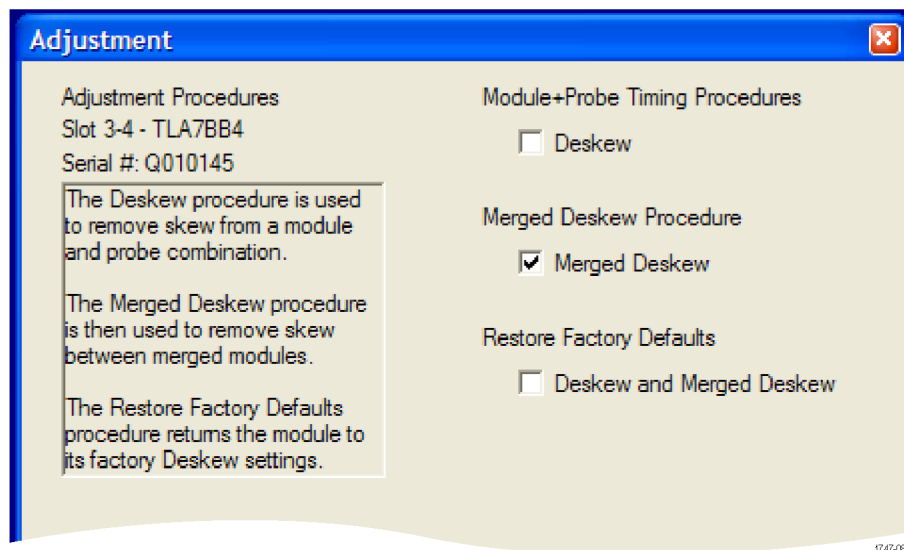

Figure 61: Adjustment procedure dialog box with Merged Deskew selected
3. Select Merged Deskew in the dialog box. (See Figure 61.)